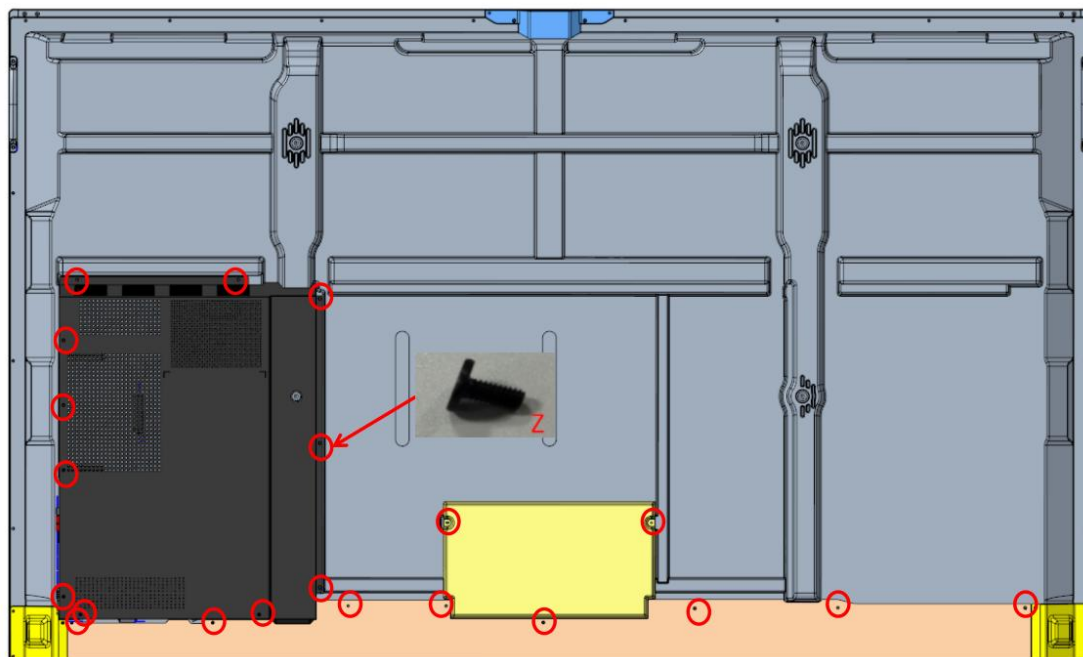
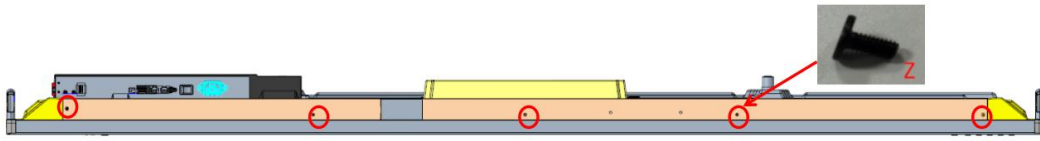

Figure 1
Figure 2
STEP 1: Use an electric screwdriver and M3 adapter to remove all screws corresponding to the red circles in the Figure 1 and Figure 2.